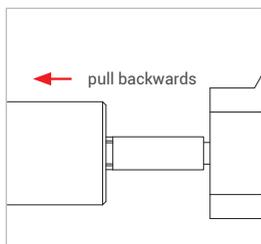

Figure 4
- ▶ Pull lightly on the test piece (red arrow Figure 4) in the direction opposite that of the connection to make sure that the connector is firmly in place.